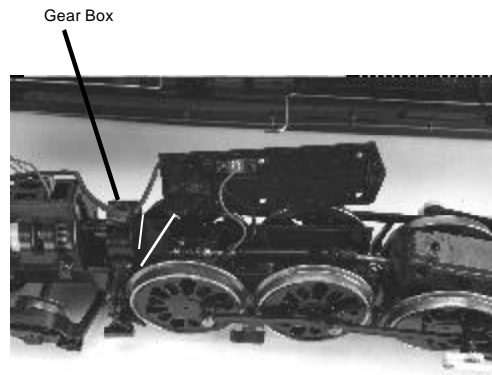

Figure 16
5. To remove the vertical gearbox, the motor mount screws in the bottom of the chassis that attach the motor mount to the chassis need to be removed. This will allow the dog bone joint to be easily removed and replaced. Remove the 4 screws attaching the vertical gearbox. Then pull straight up on the gear box. (See figure 16).